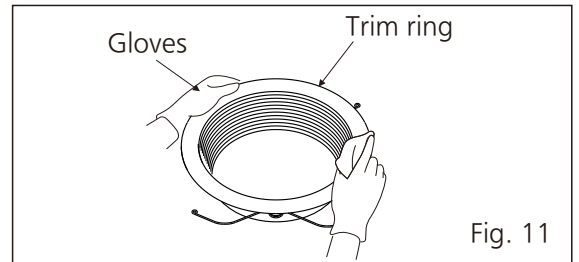

Fig. 11
2. Clean the trim ring. (Don't put into hot water. Use non-abrasive kitchen detergent, wipe dry with clean cloth.) (Fig. 11)